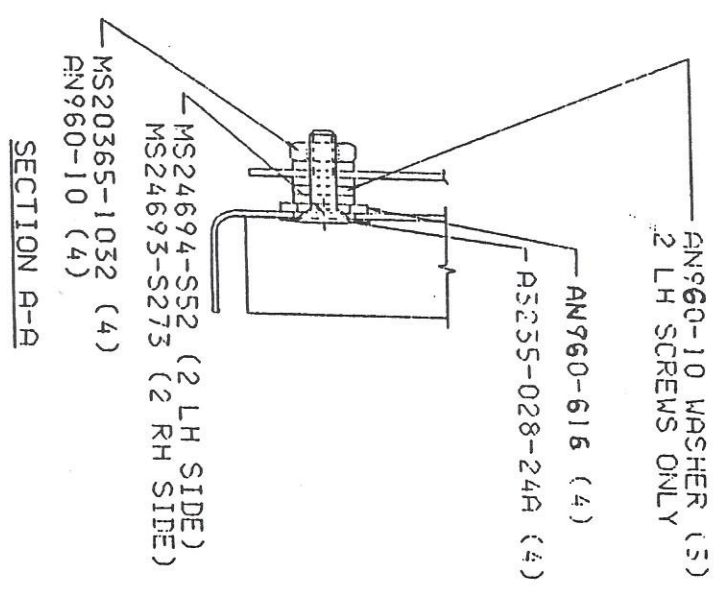

FIGURE 1
- B-2 Locate the 804023-5 bracket on the top of the battery tray as shown in Figure 1 and match drill the tray. Remove the bracket and open the holes in the tray to .450 diameter.
out in Figure 1. Attach the 4508-1 tape strips to the top of the battery tray to cover the screws and washers.
- B-8 Attach the 804023-5 bracket to the bottom of the battery tray as shown in Figure 1. Reattach the battery tray to the firewall.
- B-9 Wire the plug as shown in Figure 1. The MS25171-3S nipple should be installed so that it covers the positive terminal on the AN2552-3A receptical.